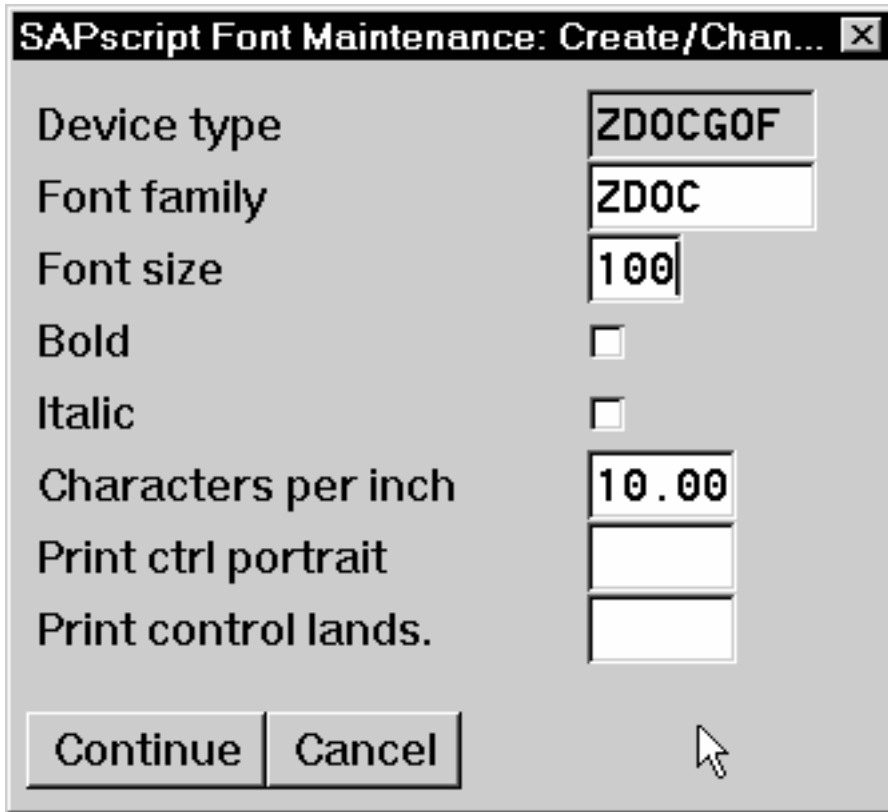

Figure 66. SAPscript Font Maintenance (Create/Change) window for OTF Fonts
11. From the Create/Change... window shown in Figure 66, select the intended device type (ZDOCGOF) and fill in the remaining information: